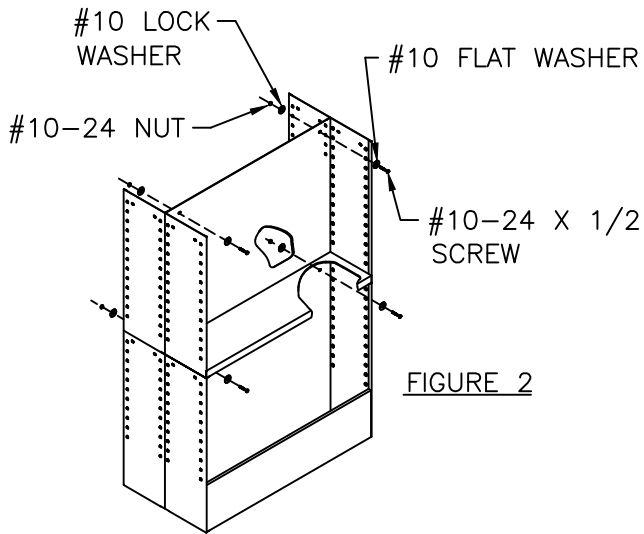
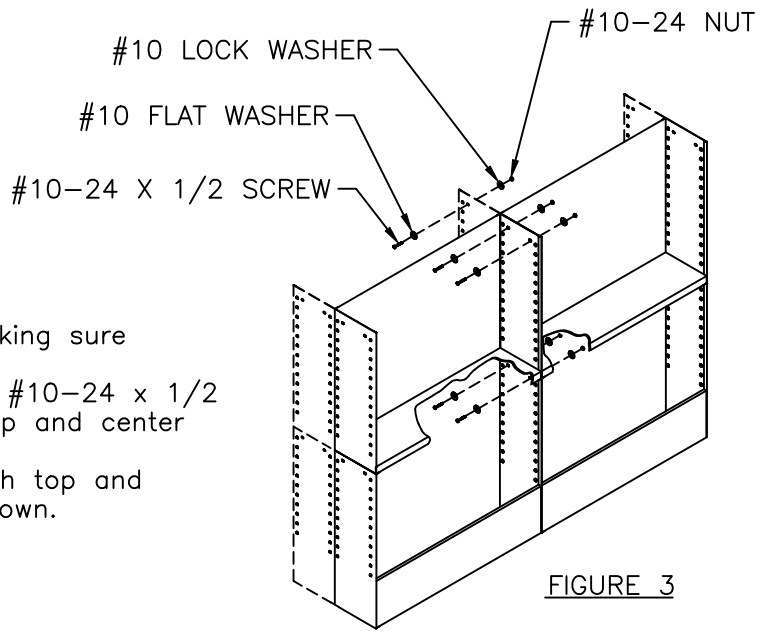

FIGURE 2
FIGURE 3
2. To attach units back-to-back: (figure 2)
- b.) Fasten units together with (4) #10-24 x 1/2 machine screws, washers and nuts through the top and center slotted holes as shown.
3. To attach units end-to-end: (Figure 3)
- b.) Attach single units together with (4) #10-24 x 1/2 screws, washers and nuts through top and center slotted holes as shown.